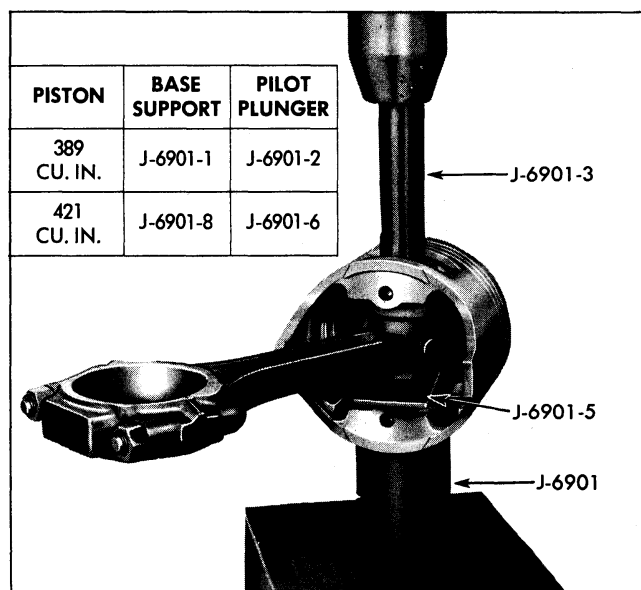

Fig. 6-63 Piston Positioned in Arbor Press for Removal of Pin
2. Using a suitable arbor press place the spring and plunger into the bore of the base support and position on an arbor press with the pilot plunger indexed in the bottom of piston pin bore. See Fig. 6-63 insert for correct base support and pilot plunger for the type pistons being serviced.
3. Place tool J-6901-5 between connecting rod and piston boss (Fig. 6-63).
4. Place tool J-6901-3 (Fig. 6-63) in piston pin and press piston pin down until pilot bottoms in tool J.-6901.